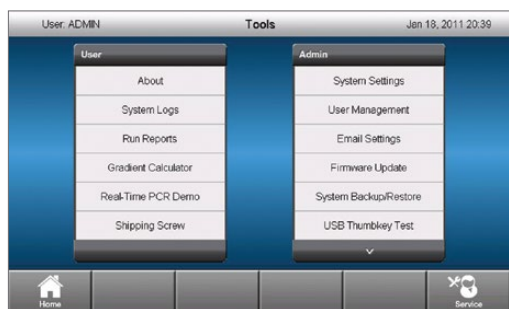

Fig. 12. Tools screen following Admin log-in.
2. In the Admin menu, touch **Email Settings** (Figure 12).